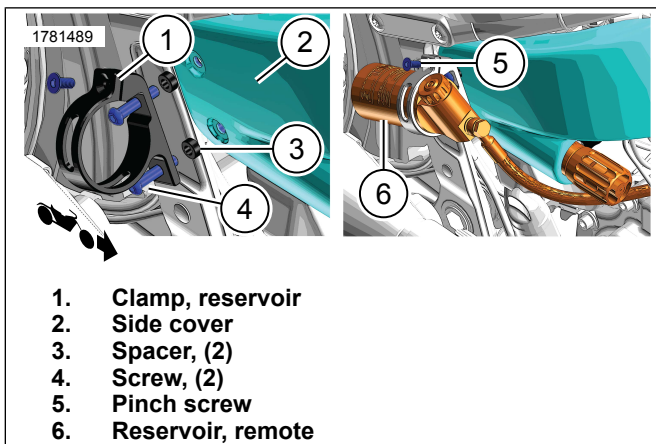

Figure 5. Remote Reservoir
4. Carefully insert remote reservoir (6) into reservoir bracket (1).
- a. See Figure 5. Orient to optimize hose routing.
5. Install pinch screw (5). Tighten.